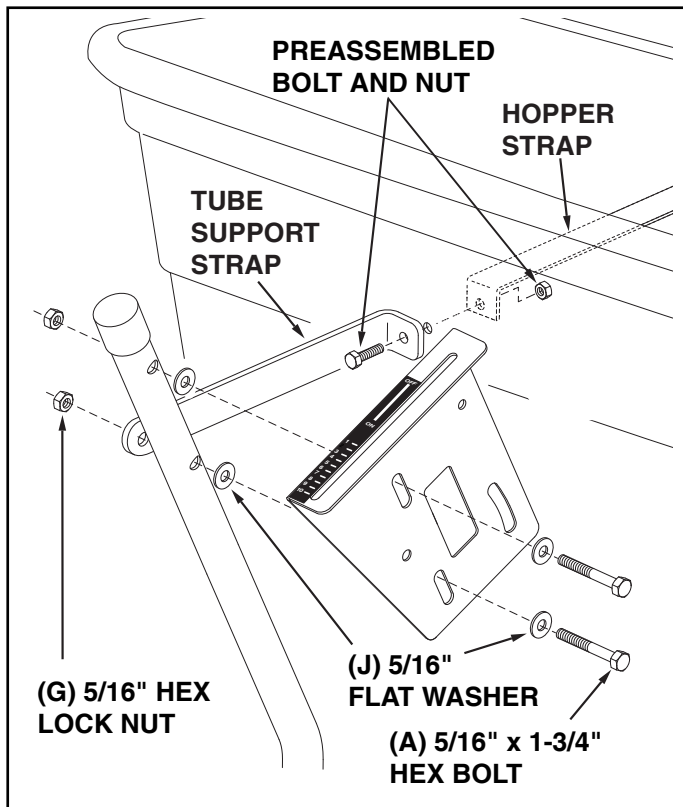

FIGURE 6
15. Assemble the flow control mounting bracket and the tube support strap to the flow control mounting tube using two 5/16" x 1-3/4" hex bolts (A), four 5/16" washers (J) and two 5/16" hex lock nuts (G). **DO NOT TIGHTEN YET.** See figure 6.
16. Remove the preassembled bolt and nut from the front of the hopper. Attach the tube support strap to the hopper and hopper strap using the bolt and nut you removed. **TIGHTEN** the nut and bolt. See figure 6.